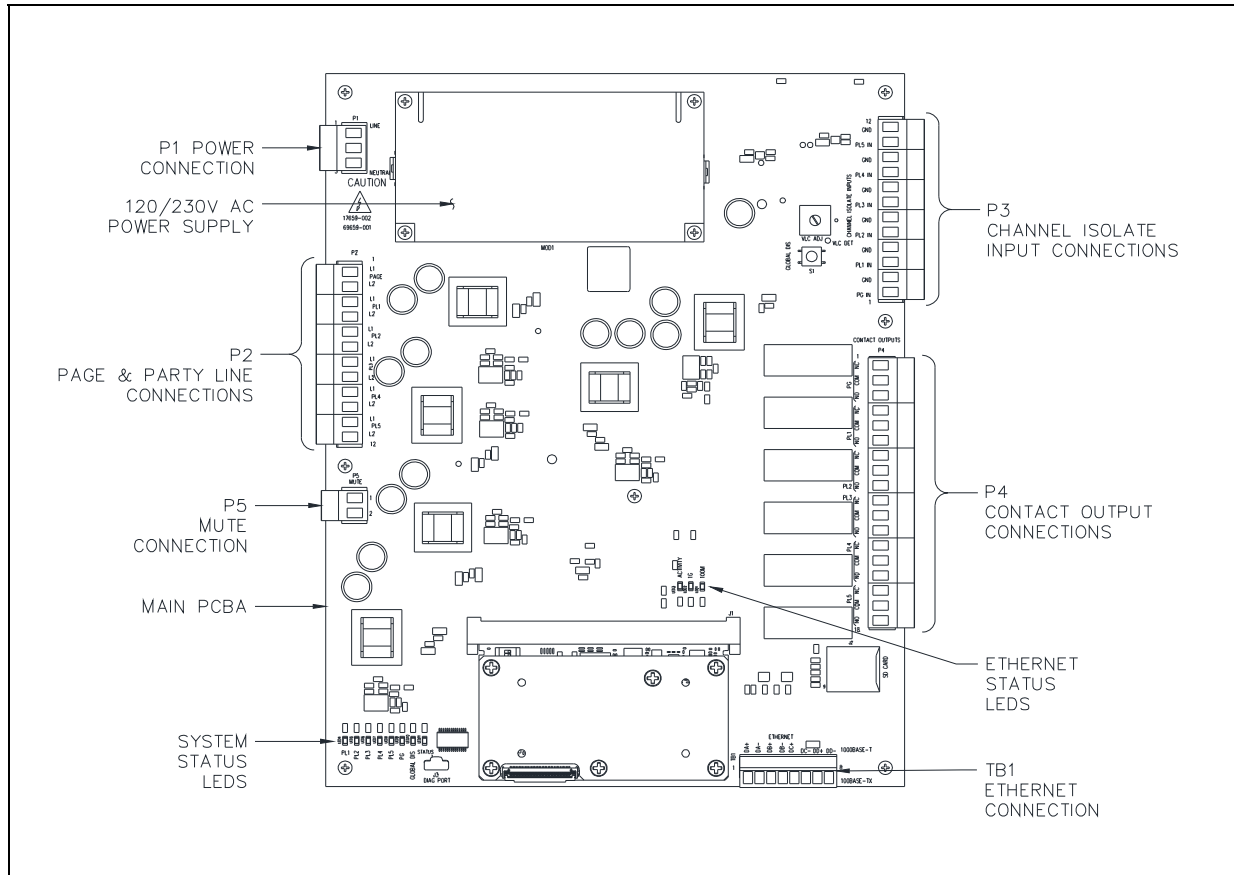

Figure 4. Main PCBA
The SP2 to Page/Party® Bridge provides terminal blocks on the main PCBA located in the rear of the enclosure for field wiring the power, 33-ohm Page/Party® audio lines, Ethernet, channel isolation inputs, and contact outputs (see Figure 4)
3. Connect the Ethernet cable to the 8-position pluggable terminal block TB1 (see Figure 4 and Table 1).
3. Connect each audio pair to one of the two-position terminal blocks (see Figure 4 and Table 2).
4. Connect the six P2 terminal blocks to the terminal block receptacle P2 (see Figure 4).
Terminate the six channel isolation inputs to terminal block P3 (see Figure 4). P3 is a 12-position terminal block. Six, two-position terminal plugs are used; one for each channel isolation input. Complete the termination as follows:
3. Connect each channel pair to the two-position pluggable terminal block for that channel (see Figure 4 and Table 4).
The SP2 to Page/Party® Bridge is equipped with six contact outputs (see Figure 4). Outputs become active when a digital audio signal is detected on the associated SP2 audio channel. These outputs may then be used to actuate field devices when SP2 page or party-lines go off-hook.
3. Connect each set of output contact wires to the appropriate three position pluggable terminal block (see Figure 4 and Table 5).